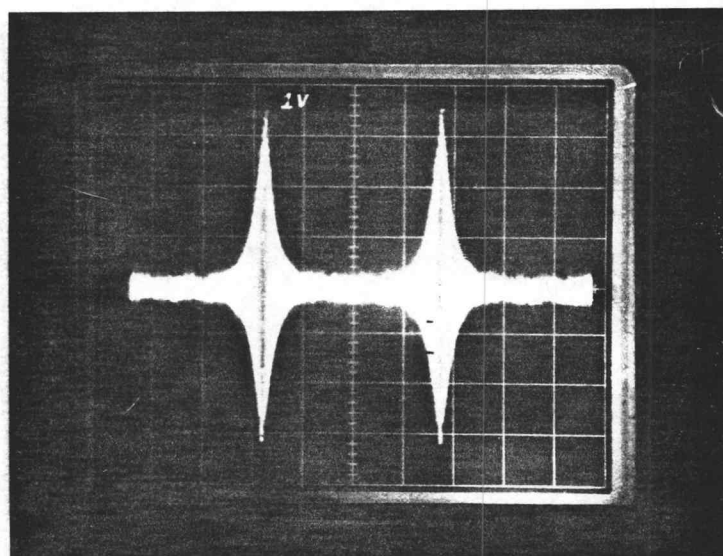

Fig. 4
- F. Turn freq. to ≈ 4.8 on dial and span down to ≈ 0.1 and check symmetry of waveform. Fig. 4